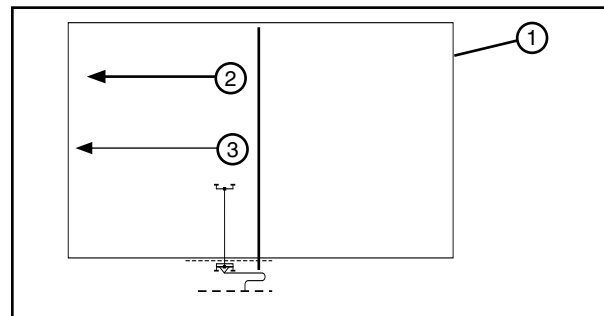

Figure 35-4 1. Field 2. Direction of Travel 3. Wet or Dry
2. At the middle of the field the system direction is reversed. Set the percentage timer and run the system either wet or dry back to the original end of the field. See figure 35-4.